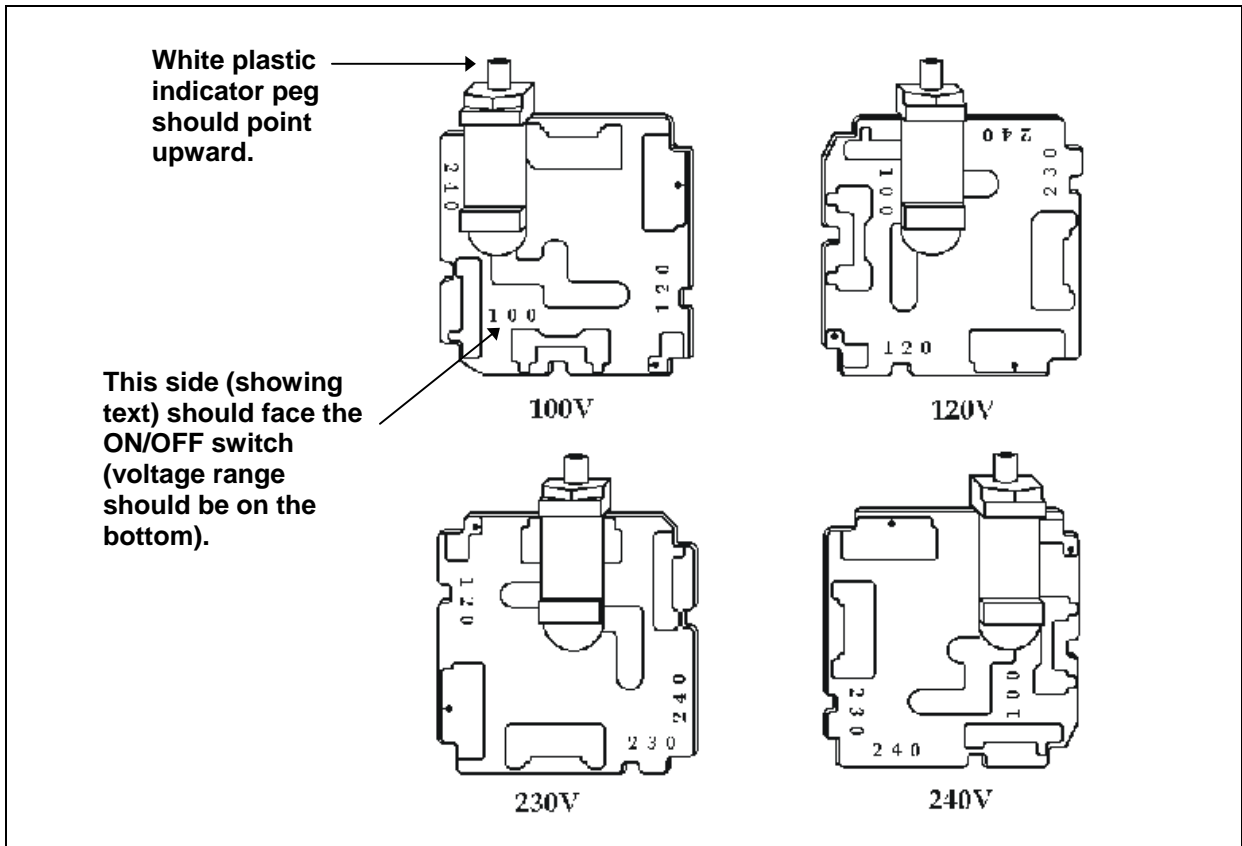

Figure 13: Voltage selector card input range positions
- As shown in **Figure 13** below, there are four different voltage range positions. Rotate the white plastic indicator peg around the card so that it fits into the correct groove for the desired voltage.